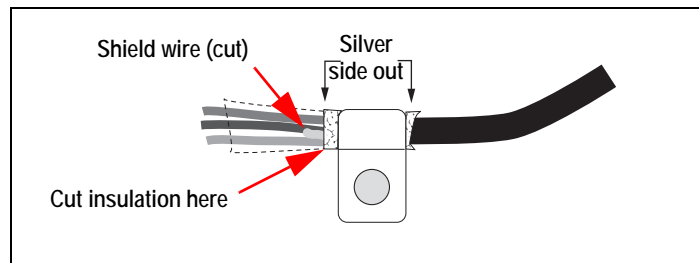
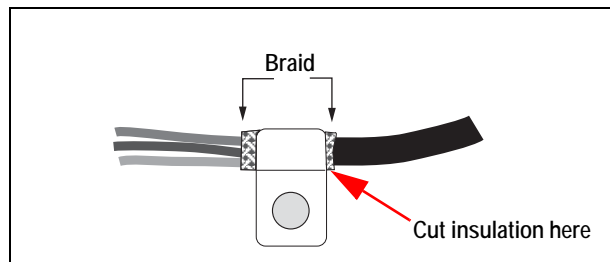

Figure 2-1. Foil Insulated Cable
Figure 2-2. Braided Shielding
5. Ensure the shields contact the grounding clamps as shown in Figure 2-1 and Figure 2-2. Tighten the ground clamp screws.